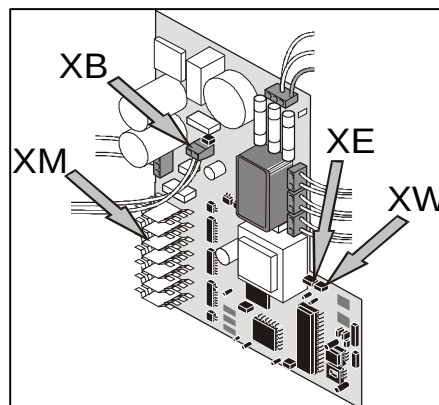
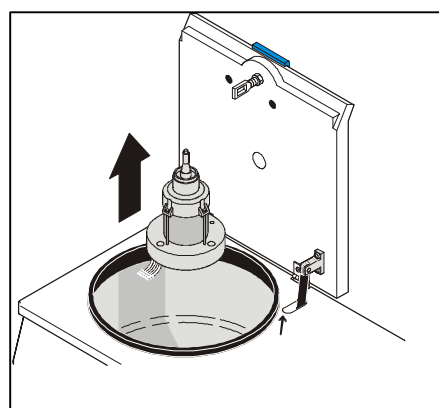

Figure 16
Figure 17
5.4.1 Drive Motor (310)
- Unplug the leads for motor XM (1, 2 and 3) and overtemperature switch XB (Figure 16).
- Unscrew the 3 M6 nuts (311) with a 10 mm socket wrench and remove them together with the toothed discs (312).
- Lift the motor a little, unscrew the grounding receptacle, disconnect the plug on the speed detection board XW and remove the motor out of the spin chamber (Figure 17).